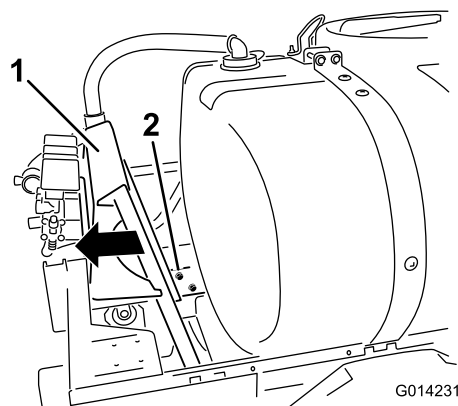

Figure 6
1. Loosen the bolts securing the valve mounting rail to the frame (Figure 6).